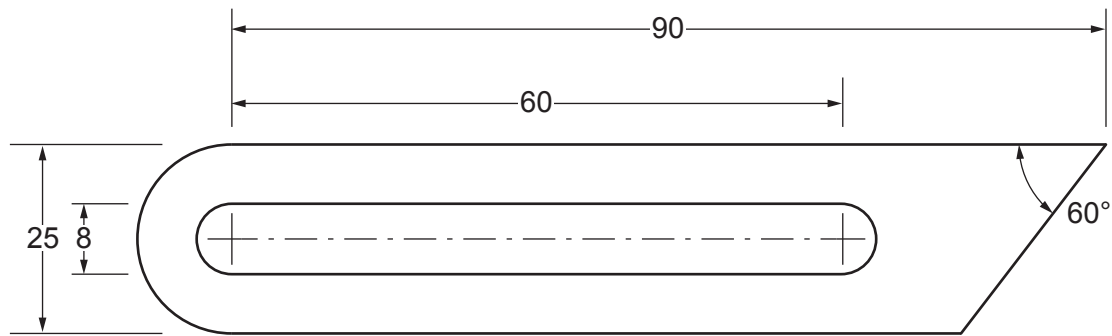

Fig. 3.1
- 3 Fig. 3.1 shows the blade of a sliding bevel that is to be made in a school workshop. The blade will be made from 3 mm mild steel.